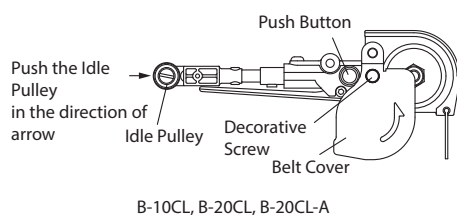

Fig.10
- a) B-10CL, B-20CL, B-20CL-A (Fig.10)